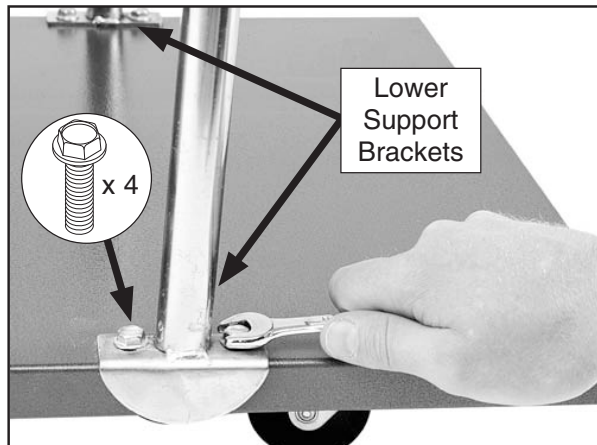

Figure 29. Mounting support bracket to base.
4. Attach the lower collector support brackets to the top edge of the base plate using (4) $\frac{5}{16}$ "-18 x $\frac{1}{2}$ " flange bolts, as shown in **Figure 29**.